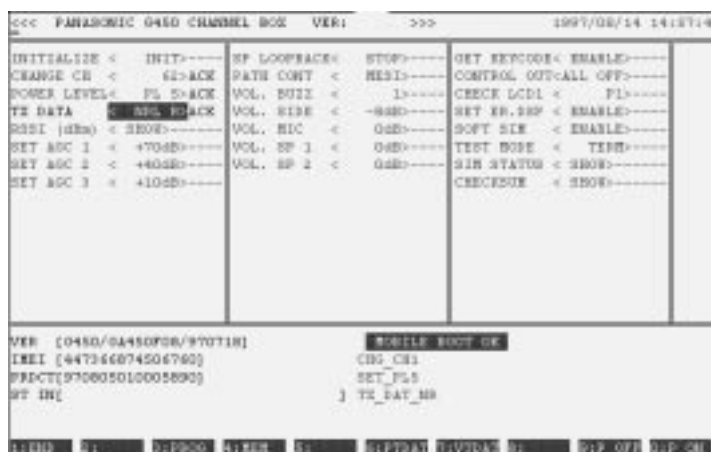

Figure 12: Test data field
- Figure 12 press the down arrow until TATA is highlighted press the over arrow until RL R appears in the highlighted field press ENTER